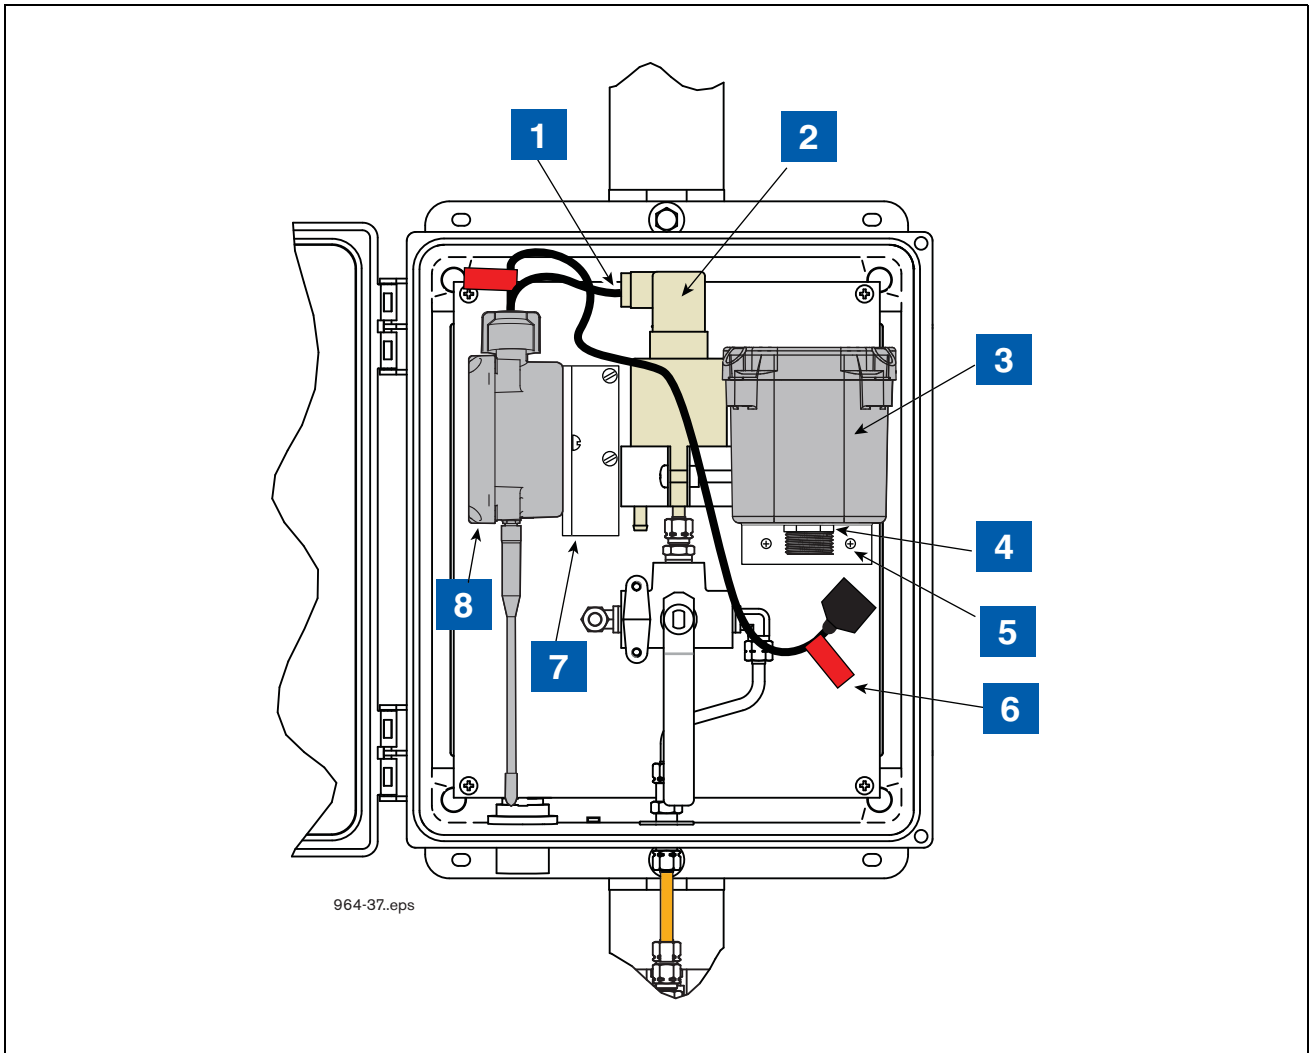

Figure 19. Example VRPS Transmitter/battery Pack Installation In The Universal Enclosure
5. Get the thin hex nut from the kit and screw it onto the battery housing cable connector threaded fitting until snug (see item 4 in Figure 19).
6. Attach the battery housing/bracket assembly to the back mounting surface of the Universal Enclosure using two #10 taptite screws from the kit (see item 5 in Figure 19).
**LEGEND FOR NUMBERED BOXES IN Figure 19**